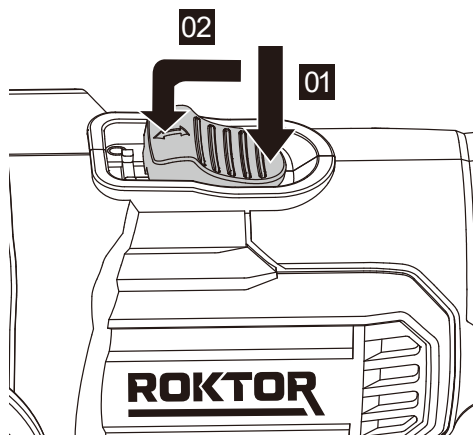

Figure 7
2. SLIDE ON/OFF SWITCH (SEE FIG. 7)